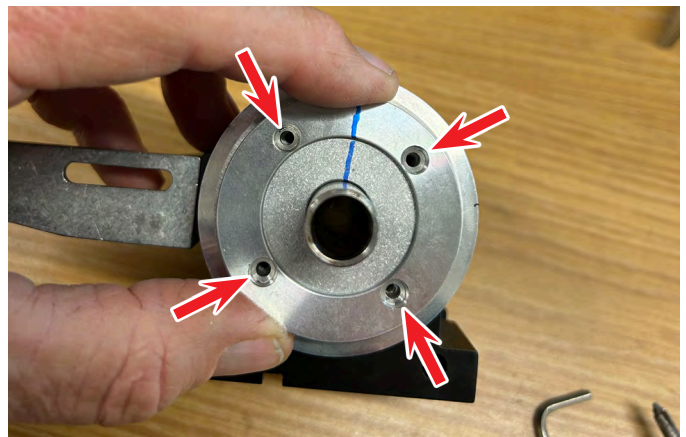

FIGURE 7
D. As you mount each part of the assembly onto the spindle, turn the part to align the 5-40 screw holes (see Figure 7).